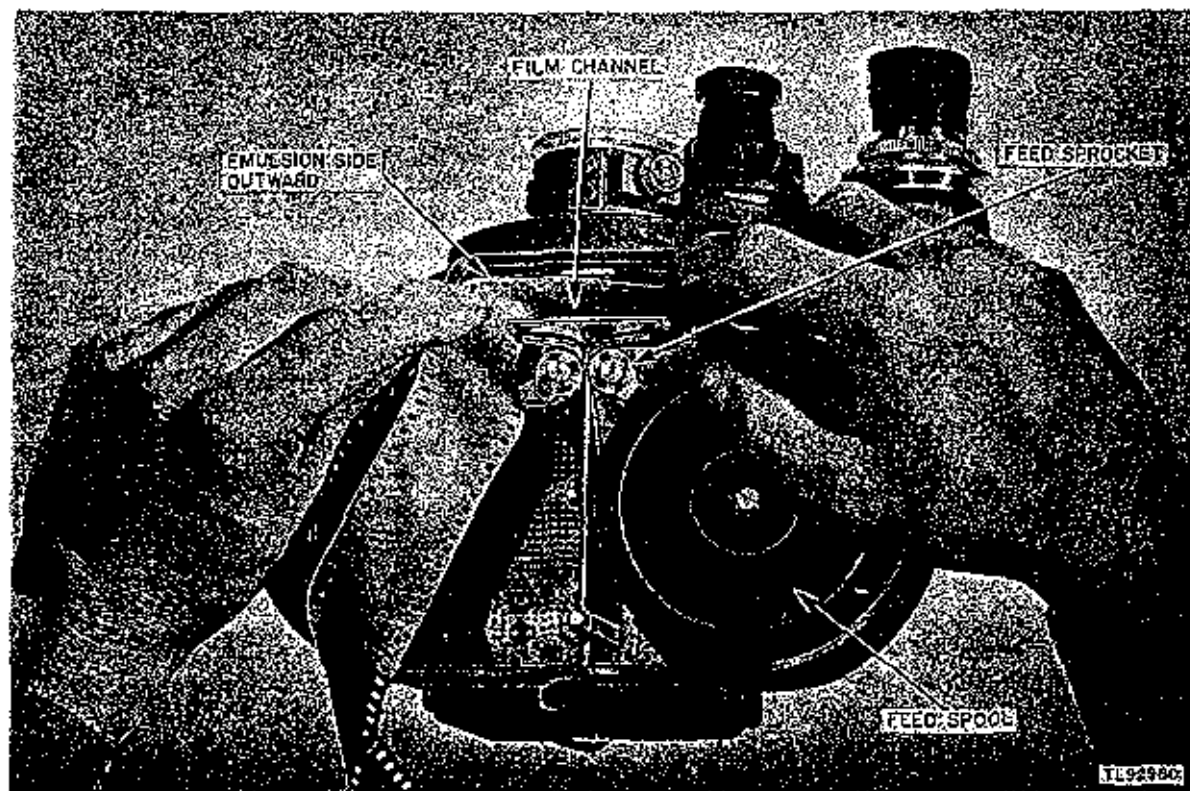
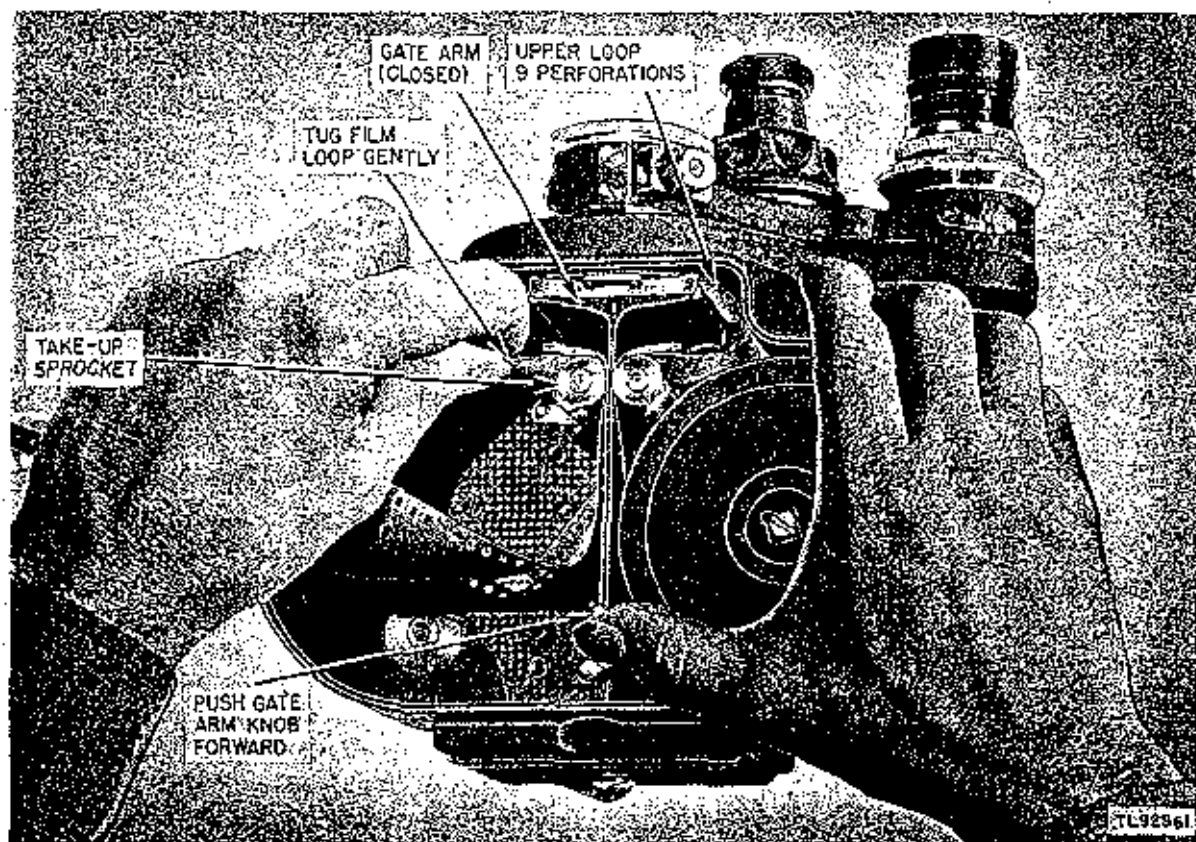

Figure 26: Loading, Camera PH-330-(*); inserting film in channel and engaging sprocket holes.
Figure 27. Loading, Camera PH-330(*): forming loops, engaging film in shuttle teeth, and closing film gate.
e. Hold the feed spool with the right hand, and with the left hand draw about a foot of film from the spool in a clockwise direction. Make an approximate loop with the left hand and place the spool partly over the feed spindle. Insert the film loop partly between the feed sprocket and its guard (fig. 26). Complete the rough thread-up by fitting the film into the channel between the pressure plate and the aperture plate (fig. 26) and then inserting it partly between the take-up sprocket and its guard (fig. 27). Be sure that the film is inserted so that the emulsion side is facing the lens.
spindle (fig. 26). This may be done either by turning the spool counterclockwise, or by turning the feed spindle.
h. Insert the film between the take-up sprocket and its guard (fig. 27) and engage the sprocket holes in the sprocket teeth, so that the lower, or take-up loop will have 11 sprocket holes visible when the gate is closed.
i. Close the film gate by pressing the gate arm knob forward as far as it will go (fig. 27), locking the sprockets into operating position.